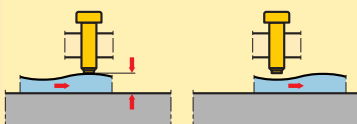

Figure 7: Mechanical clamping.
The illustration in Figure 7 (mechanical clamping) demonstrates that tension is relieved as the dimensions of the workpiece in the clamping area change.
- Clamping Bolts (Figure 7)